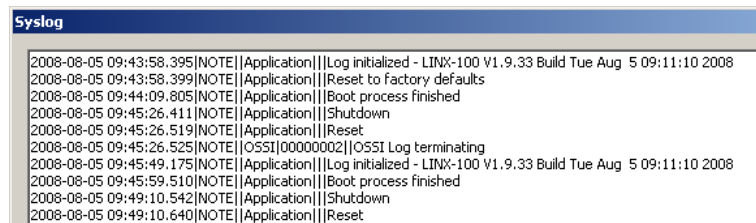

Figure 88: System log window.
- When the upload is finished, click on **Show System Log**. The system log window appears as shown in Figure 88.